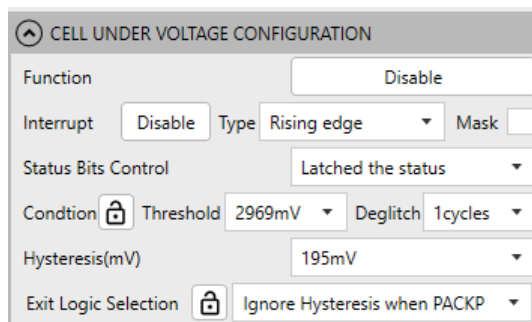

Figure 25: Cell Under-Voltage Configuration
17. Figure 25 shows the Cell Under-Voltage Configuration settings in the GUI.